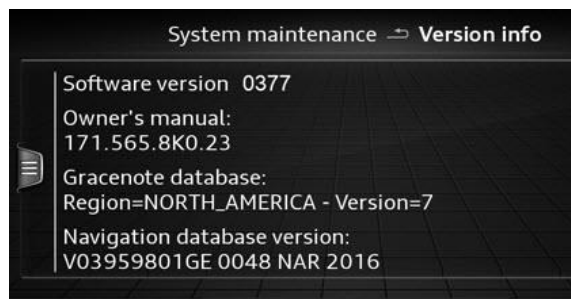

Figure 1. MIB2 Software Version in MMI
1. Verify the customer's MMI requires the software update by going to the *Main Menu>>Settings>>Left drawer option>>Version Information* (Figure 1).